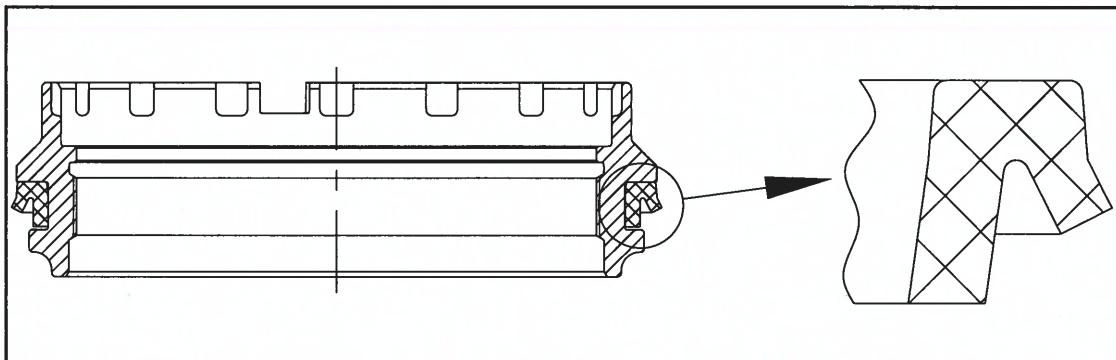

Figure 5 : Correct installation of the Seal
A. Install the new seal to the bearing ring groove. For correct installation of the Seal see fig.5.